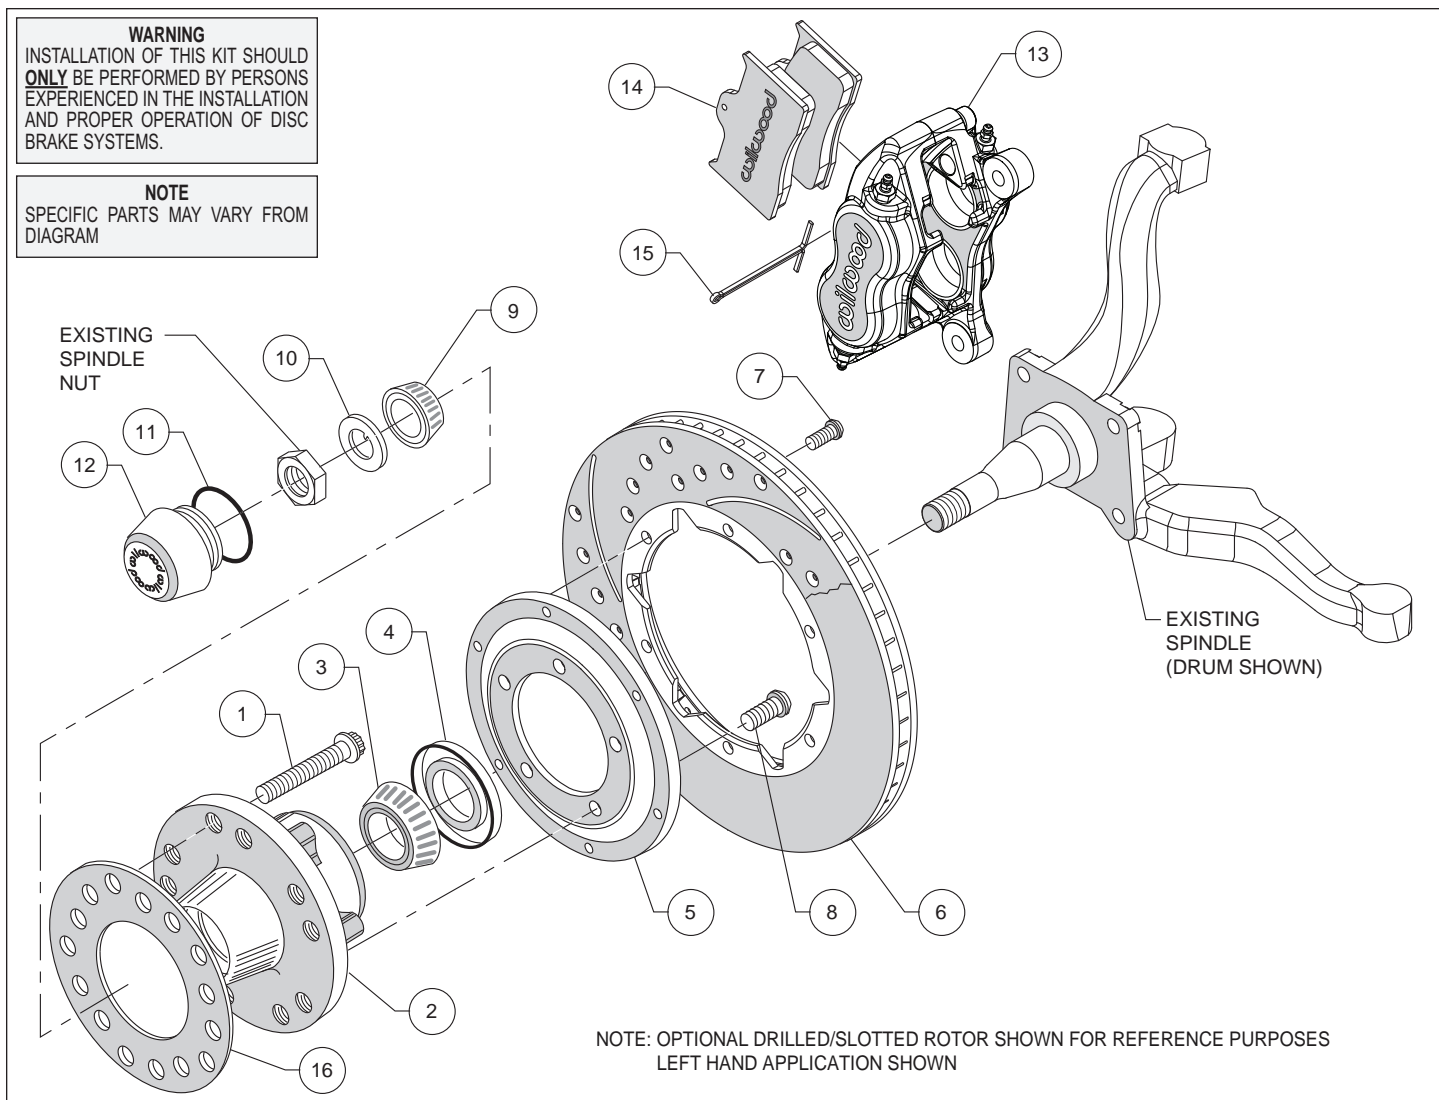

Figure 1. Typical Installation Configuration
Assembly Instructions (numbers in parenthesis refer to the parts list, and Figure 1):
- Install the grease seal (4) by pressing into the backside of the hub (2), flush with the end of the hub, Photo 2.
- Orient the rotor (6) and the rotor adapter (5) as shown in Figure 1 and Photo 3. Attach the rotor to the adapter using bolts (7). Using an alternating sequence, apply red *Loctite*® 271 to the threads, and torque to 25 ft-lb.
- Mount the adapter/rotor assembly (5/6) to the hub (2) using bolts (8), as shown in Figure 1 and Photo 4. Using an alternating sequence, apply red *Loctite*® 271 to the threads, and torque to 45 ft-lb.